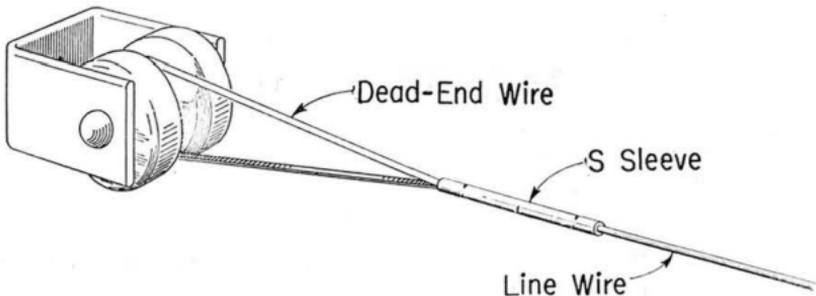

Fig. 1
3.01 Dead ends using dead-end wires and S Sleeves are assembled as illustrated in Fig. 1.
Dead-end wires have a semicircular cross-section. When the ends of the wire are pulled together evenly, with the flat sides in contact, they form a circular section which can be inserted into an S Sleeve. (See Fig. 1.)